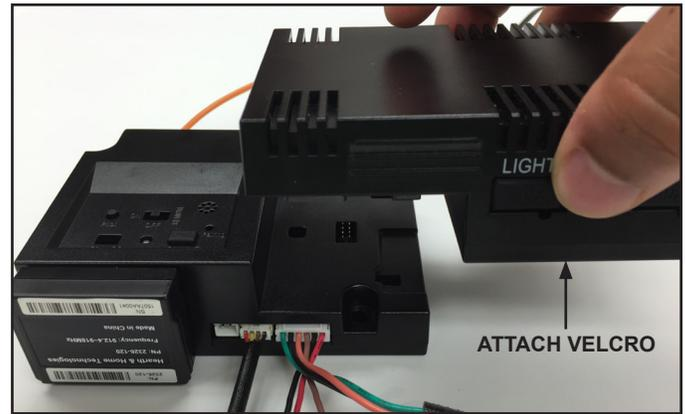

Figure 3 Connecting IFT-ACM and IFT-ECM
- Attach velcro included with the IFT-ACM to the bottom of the ACM. See Figure 3.
- Connect the IFT-ACM to the IFT-ECM by aligning the pins and tabs and pushing the IFT-ACM onto the IFT-ECM until both tabs latch in place. Ensure the IFT-ECM and IFT-ACM are aligned with each other and fastened securely. See Figure 3.